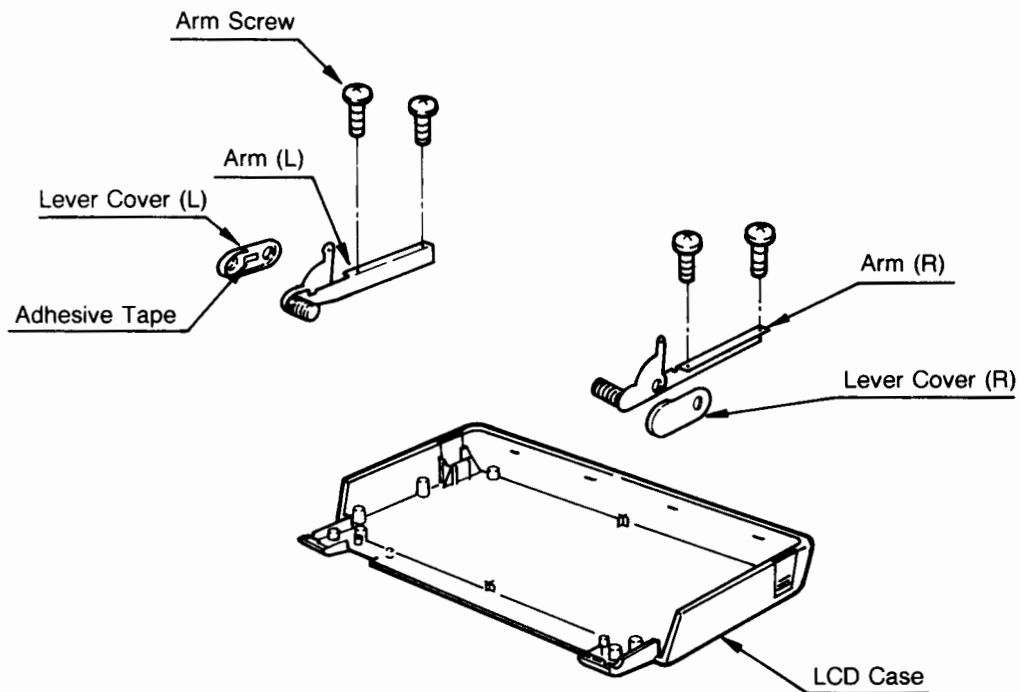

Figure 2-10. Arm Assembly Removal
- (8) Remove four Arm screws (two for each) and remove the Arm assemblies. (Figure 2-10)
- (9) Pull off the Lever Covers (right and left) from the Arm assemblies.